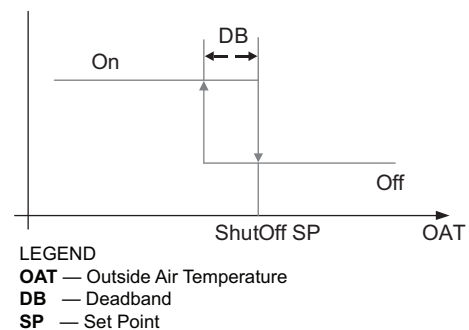

Fig. 62 — Hysteresis Settings
Hysteresis setting (DB) defaults to 2°F (–17°C). See Fig. 62.